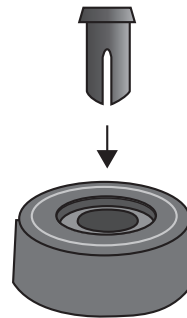

Figure 35. Inserting the Rivet Housing into the Bumper Foot
2. Insert a rivet housing into a bumper foot. Refer to Figure 35.